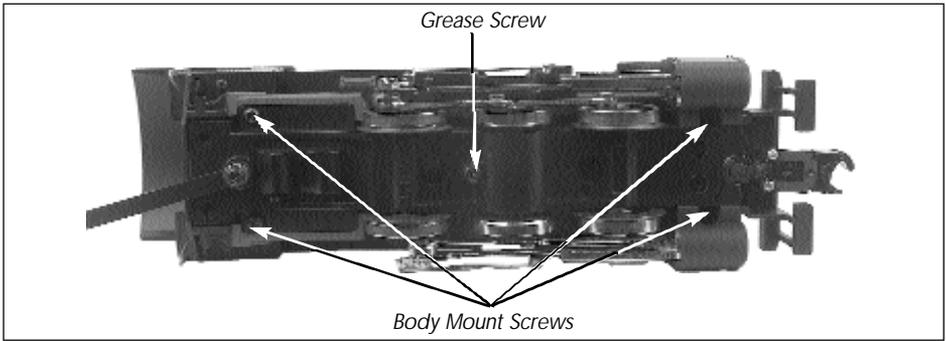

Figure 3 - Greasing points on the engine & location of body mount screws
1. Unscrew the Grease screw as shown in Figure 3 and use an applicator to apply grease into these screw holes.
Remove the locomotive boiler from its chassis as shown in figure 3 on page 9.